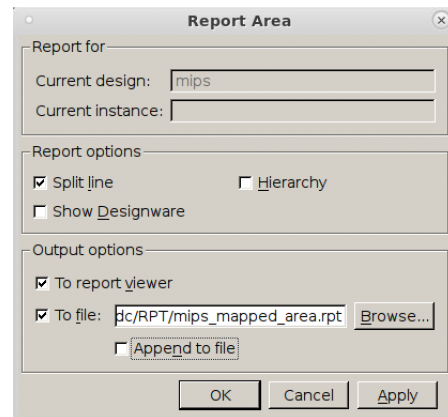

Figure 13: Reporting the design area
2. Select the parameters as in Fig. 13.